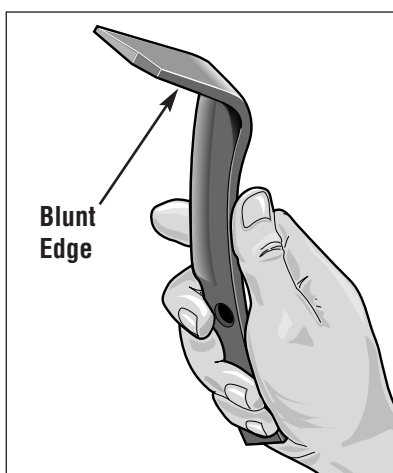

Figure 2: Left-curved tine.
B. Or, hold the tine with the **blunt** edge toward you. If the **tip** curves toward the left, the tine is a left-curved tine. If the **tip** curves toward the right, the tine is a right-curved tine. See Figures 2 and 3 which show the two types of tines.